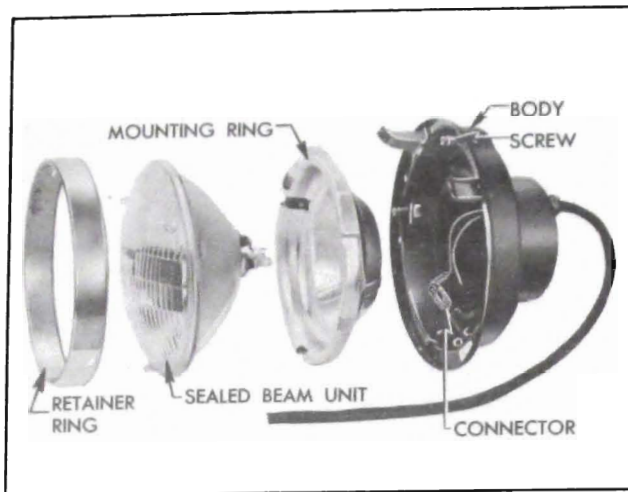

Figure 10-61—Headlamp Disassembled
The headlamp assembly on each front fender consists of a body, wiring, connector, mounting ring, sealed beam unit, retainer ring, door and gasket. See figure 10-61.
4. Spring the retainer ring slightly where marked "TOP" to remove mounting ring and sealed beam unit. See figure 10-61.